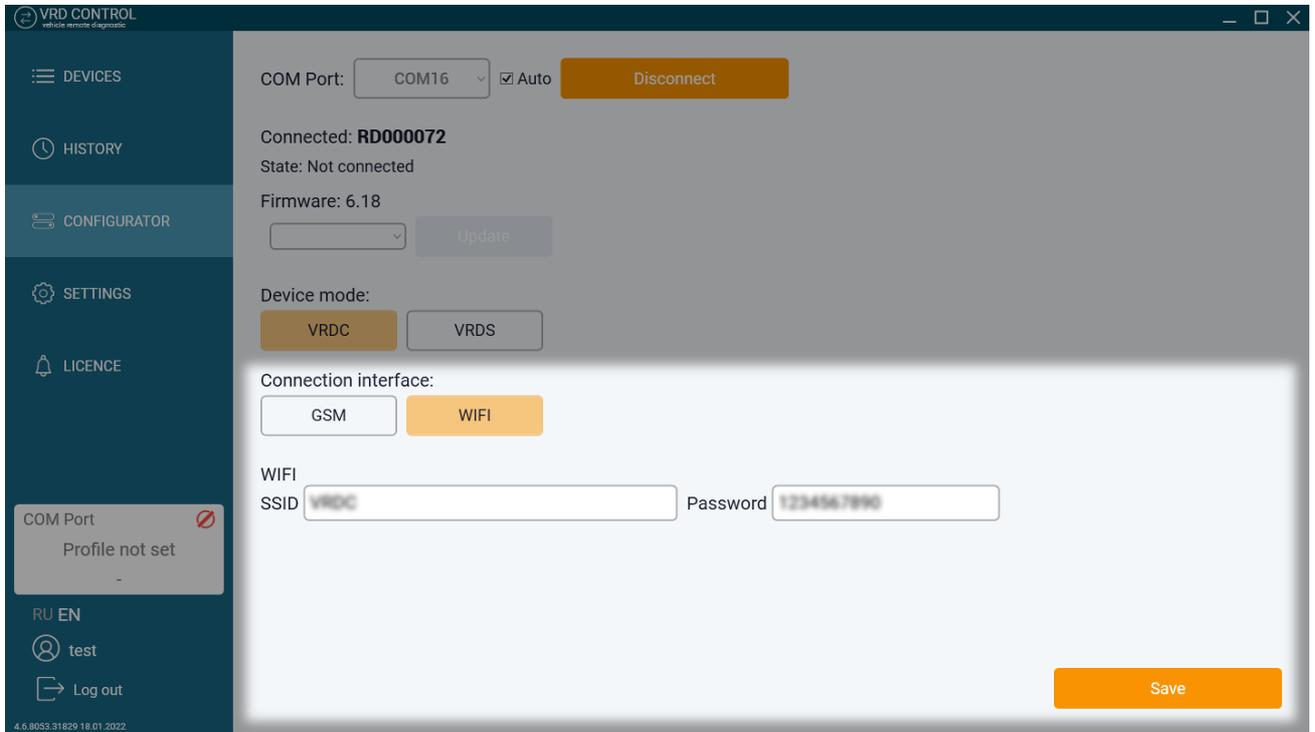

Figure 19 Wi-Fi communication interface
3. Select the COM Port to which the VRD-Server is connected from the drop-down list (see Figure 19)